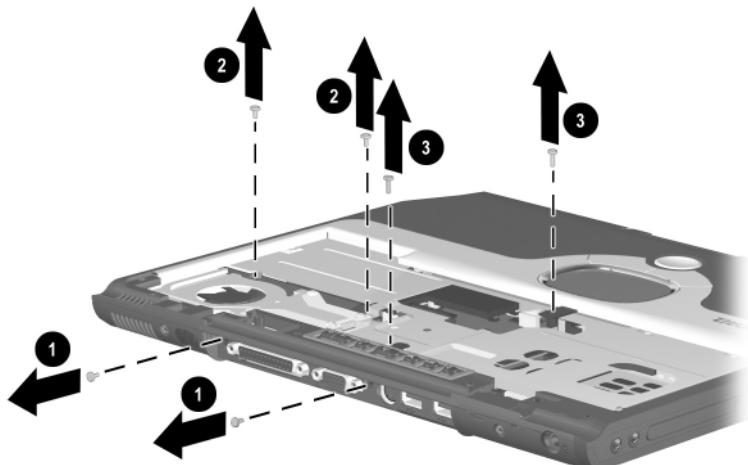

Figure 5-23. Removing the Top Cover Screws
- a. Two PM2.0 × 5.5 screws ① that secure the top cover to the base enclosure on the computer rear panel (Figure 5-23)
- b. Two PM2.0 × 4.0 screws ② that secure the top cover to the base enclosure through the metal tabs on the top cover shield
- c. Two PM2.0 × 8.0 screws ③ that secure the top cover to the base enclosure through the plastic tabs on the top cover